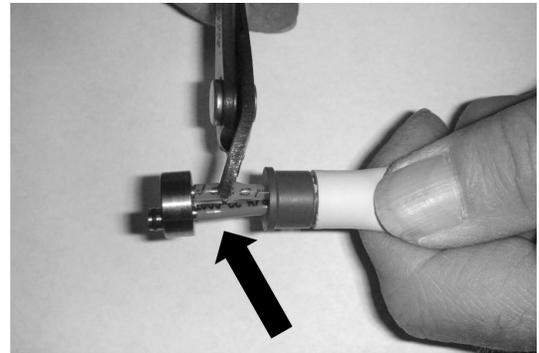

Fig. 4
Step 6 - Using side cutters or scissors, clip all tubing as close to the barb as possible. Make sure to allow slack on the tubing for reattaching to the new connector. (Fig. 4)